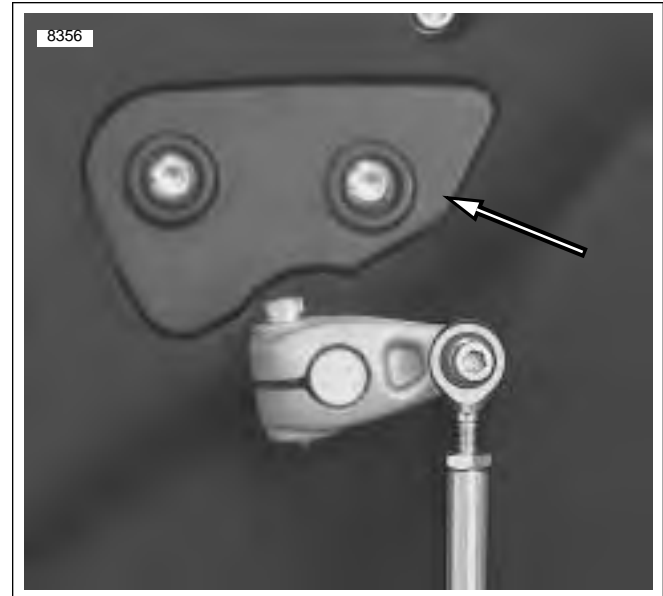

Figure 1-27. Primary Chain Inspection Cover
See Figure 1-27. Measure primary chain tension through the inspection cover opening. Adjust primary chains not meeting vertical free play specifications.
1. See Figure 1-27. Remove two fasteners with captive washers and primary chain inspection cover with gasket from primary cover.
4. See Figure 1-27. Install primary chain inspection cover and **new** gasket to primary cover using two fasteners with captive washers. Tighten fasteners to 84-108 in-lbs (10-12 Nm).